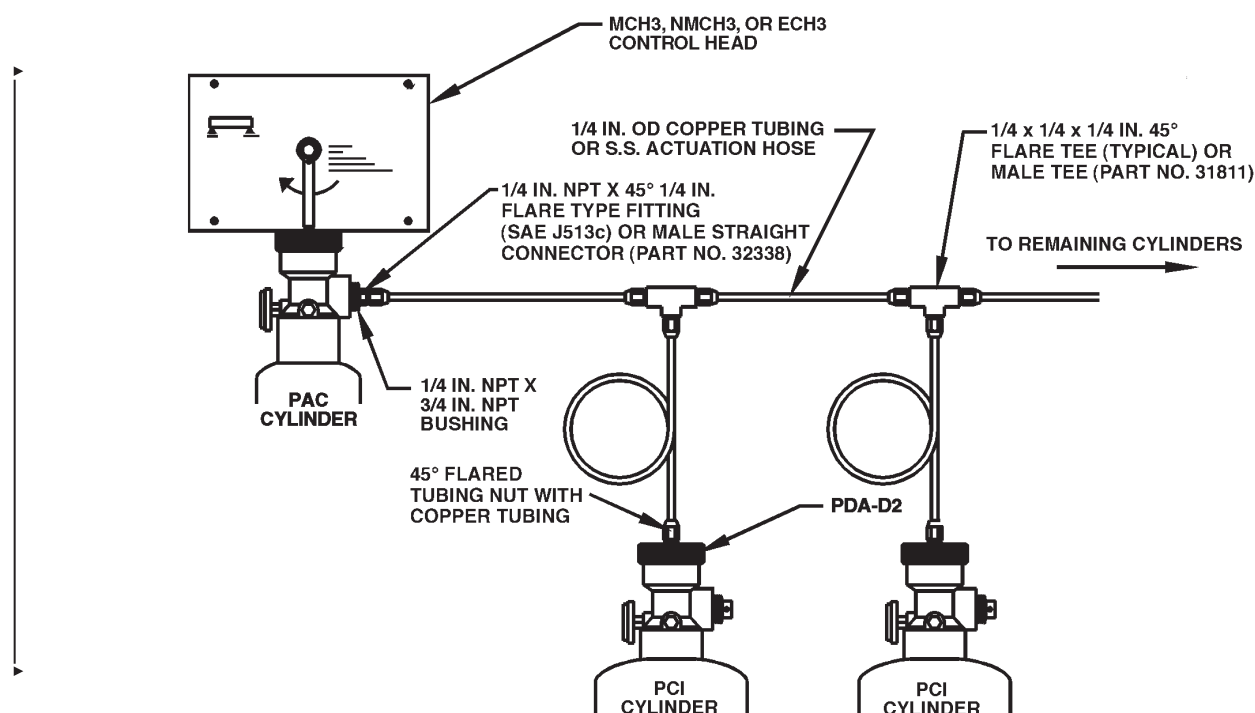

Figure 4-5. Multiple Cylinder Actuation Using Model PAC-10 or PAC-200
- In order to actuate the agent cylinders from a Model PAC-10/200 Pneumatic Actuation Cylinder, a 3/4 in. NPT x 1/4 in. NPT bushing must be screwed into the pneumatic cylinder's discharge port. A 1/4 in. NPT x 45° 1/4 in. flare type fitting (conforming to SAE J513c) must then be screwed into this bushing. The male straight connector (Part No. 32338) is used with stainless steel actuation hose. Also, a Model PDA-D2 Pneumatic Discharge Adaptor must be installed on the valve of each agent cylinder. Pneumatic tubing is then used to connect the PAC-10/200 pneumatic cylinder to the PDA-D2 of each agent cylinder valve. **See Figure 4-5.**